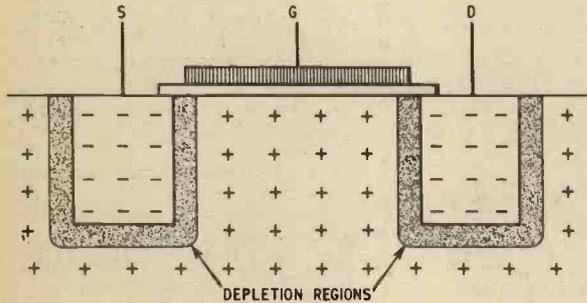
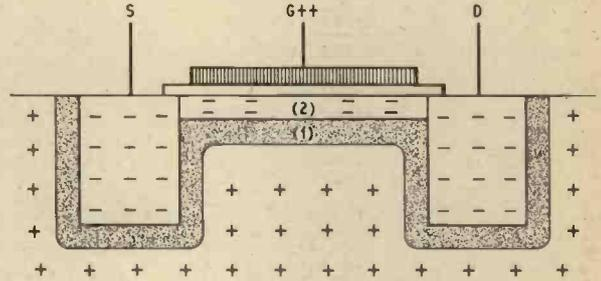
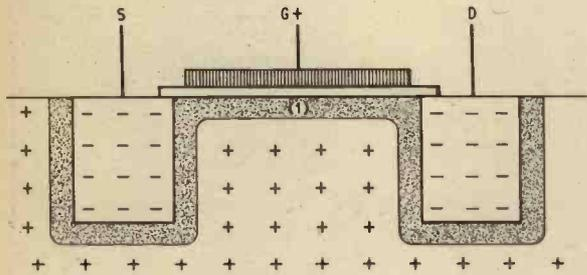

Fig. 9a. Equilibrium situation, no voltage applied
Fig. 9c. Gate made more positive, inversion layer (2) formed
Fig. 9b. Gate made slightly positive
A simplified theory of the operation of the device is illustrated in Fig. 9 (not to scale). Fig. 9a shows the equilibrium situation with no voltages applied. If a small positive voltage is applied to the gate the action of the electrical field produces a depletion region (1) just below the surface of the substrate (Fig. 9b). In Fig. 9c an increase in gate voltage extends region (1) deeper into the bulk of the semiconductor and produces region (2). In this region the electron density actually becomes greater than the hole density; it behaves as if it were n -type material.